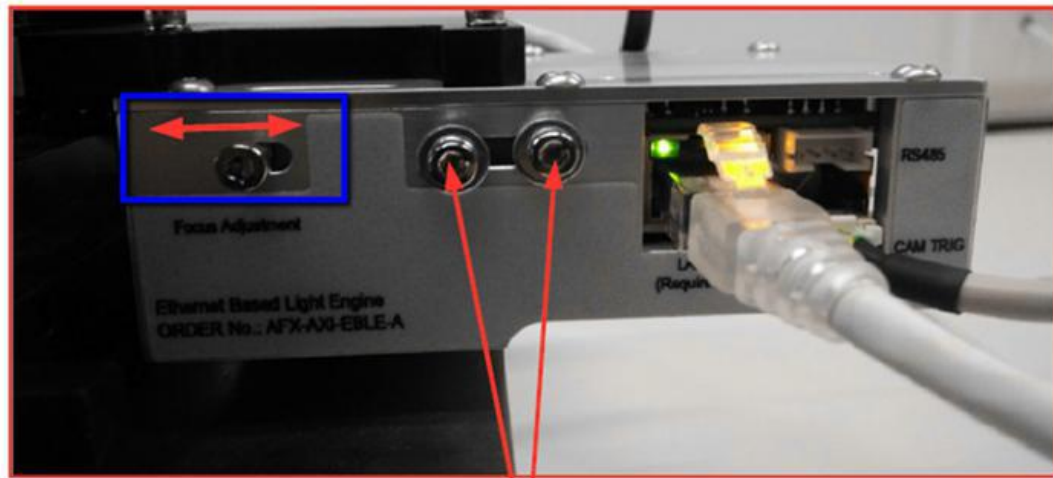
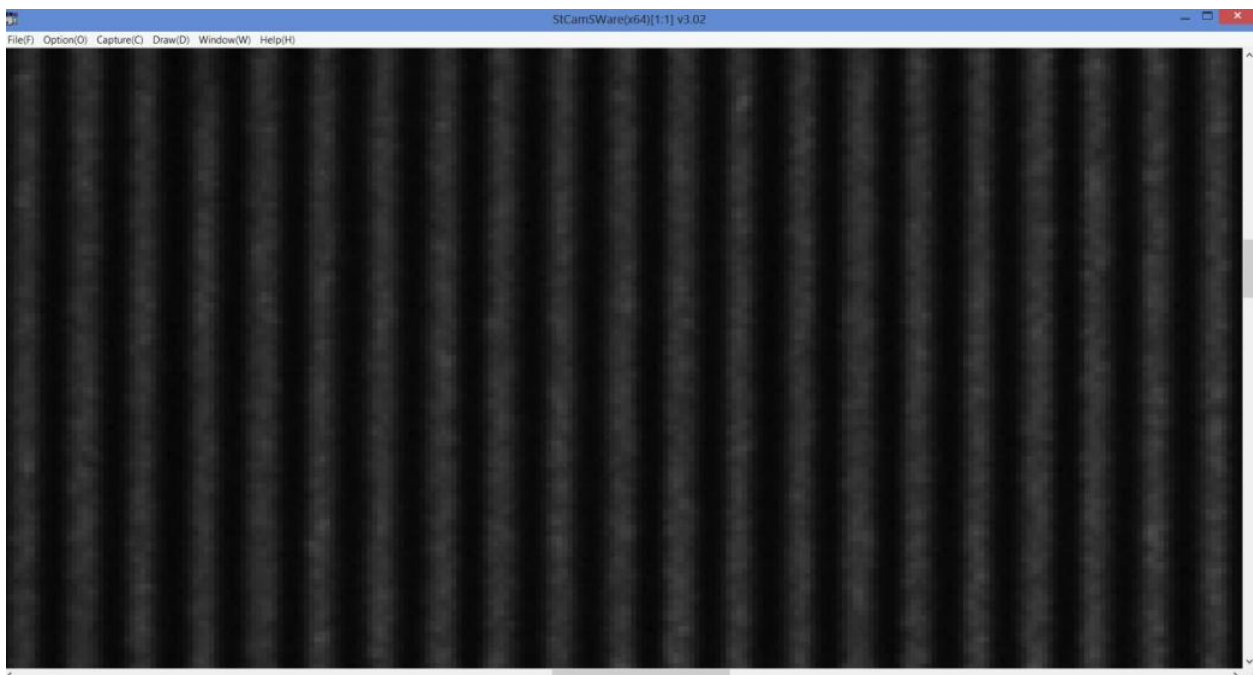

Figure 49 Clear Fringe Pattern
Figure 51 Image A
48. Adjust the Focus Adjustment until “Clear Fringe Pattern” is obtained as Figure 49. Then, Tighten 2 x Screws.
50. Verify the Fringe pattern image sharpness are approximately similar to Image A (Figure 51)
- b. If Image B is obtained during the verification, please re-adjust the “Focus adjustment “of projector by refer to “Size 8” at Stcamsware GUI until Image A (Figure 51) is obtained. Once completed, please re-verify the sharpness image at “Size 1” at Stcamsware GUI as Figure 49.